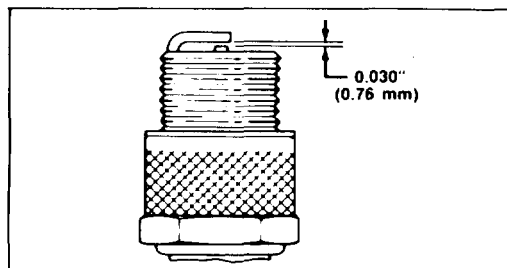

Figure 34
3. Set air gap between electrodes of new spark plug at 0.030" (0.76 mm) (Fig. 34). Next, install spark plug in cylinder head. Tighten plug to 15 ft-lb (20.4 N-m). If torque wrench is not used, tighten plug firmly.